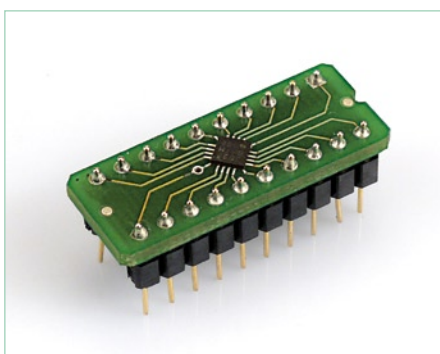

Figure 4. The Si4735 module consists of a daughter board with the DSP IC mounted on it.
1) can also be ordered on-line. Ready-programmed microcontrollers (100126-41) and the Si4735 module shown in **Figure 4** (090740-71) are also separately available from the *Elektor* shop, and so if you wish you can populate the main board yourself. Start with IC2, the FT232RL: a little experience in soldering SMD ICs will be useful here. Then fit the USB socket and connect the board to a PC for testing. If the USB interface IC is recognised by the PC, then you have cleared the first hurdle.